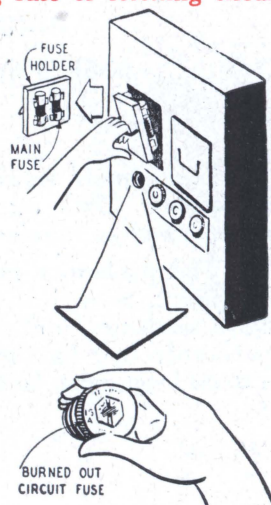

Fig. 2
1. **PLUG FUSES** are round and screw into the fuse socket. Fig. 2
4. **CARTRIDGE FUSES** are generally used for the main circuit — range and water heater. Fig. 2 Top.
- b. Open main switch. Fig. 2 or 3.
- d. Remove blown fuse. Fig. 2.